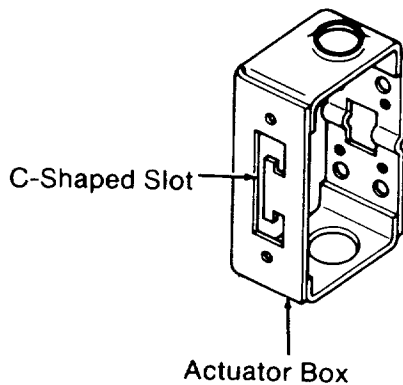

Fig. 21
4. Place an *actuator box* in front of you with the C-shaped slot facing you and the closed surface of the box to the left. This will become the *left foot assembly*. (Figure 21)